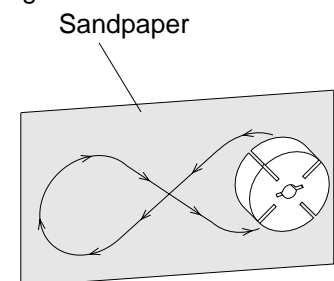

Figure 34 - Sanding Rotor
14. Place fine grade sandpaper (600 grit) on flat surface. Sand rotor lightly in "figure 8" motion four times (see Figure 34).